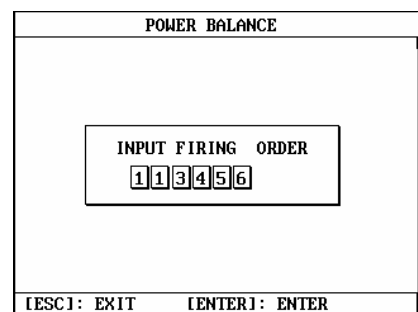
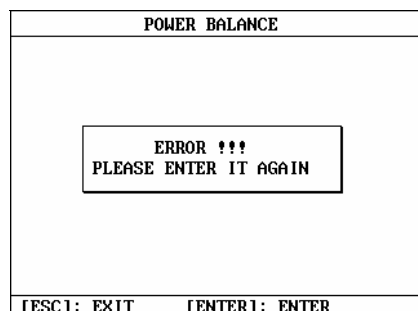

Fig.7-09
Fig.7-10
*Make sure to input the firing order correctly. If a wrong firing order is inputted, the screen will display error information. For example, if mistake is made as shown in Fig.7-09 (two "1"s are inputted), the screen will prompt error information as shown in Fig.7-10 after pressing [ENTER] key.*
will display error information. For example, if mistake is made as that shown in Fig.7-09 (two "1"s are inputted), the screen will prompt the error as shown in Fig.7-10 after pressing [ENTER] key.